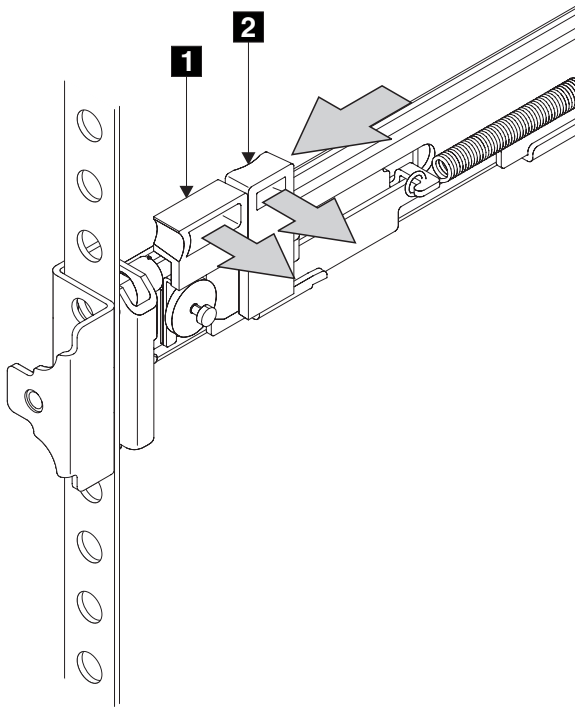

Figure 91. Closing the latch-lock carrier assembly
8. Push the latch lock **2** (Figure 91 on page 364) away from the rail to release the carrier. The latch-lock carrier slides toward the front of the rack and the locating pins project through the holes that are in the front flange and in the front rail bracket.